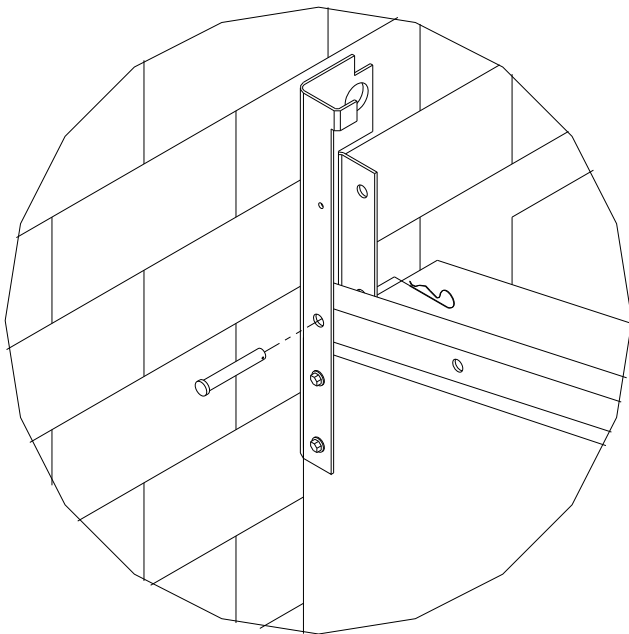

FIGURE 8
3. Insert the clevis pin in from outside until it comes through the inside of the bracket. Install the supplied bridge pin so it cannot slide back out. Do this for both sides. (See Figure 8)